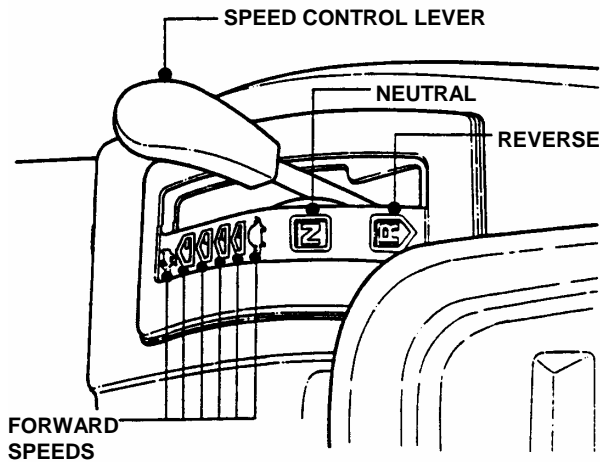

FIGURE 4.11
- Move the speed control lever until it is in direct relation to the neutral "N" position on quadrant. See Figure 4.11.